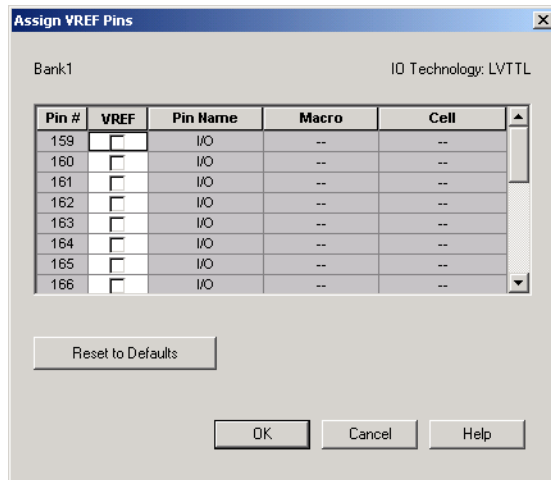

Figure 2-2. *Assign VREF Pins Dialog Box*
4. **Click the *Assign VREF Pins* button.** The Assign VREF Pins dialog box appears, as shown in Figure 2-2.